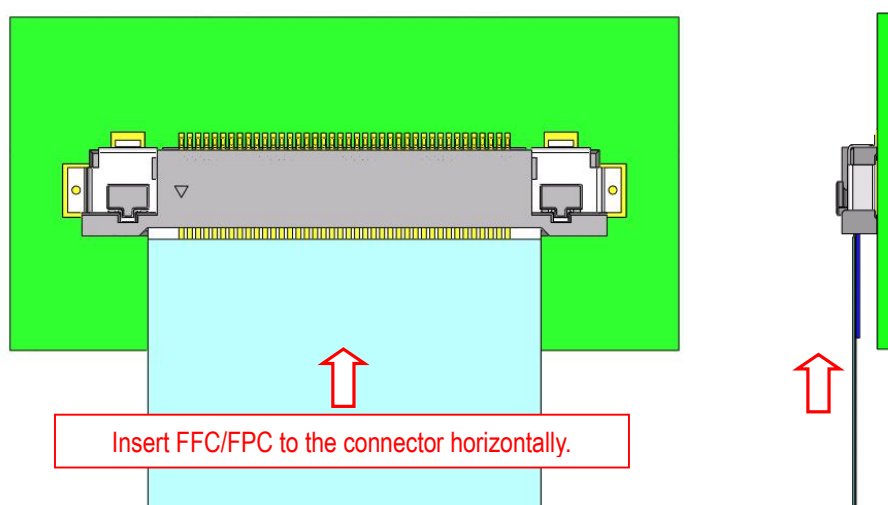

Fig. 2-3 FFC/FPC inserting method 2
- ② Please insert FFC/FPC to the connector horizontally and push all the way in. (Fig. 2-3)